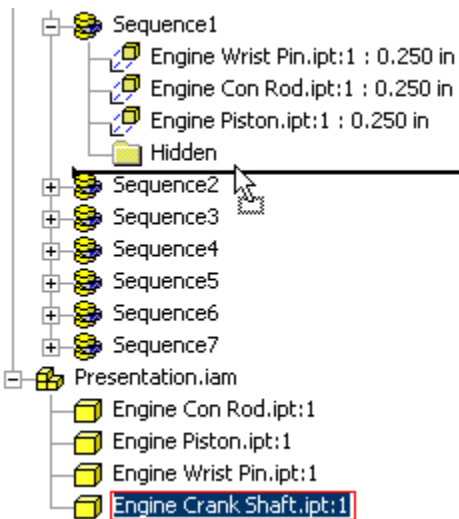

Figure 15: Drag and drop to hide components.
3. Drag Engine Crank Shaft.ipt and drop it just below the Hidden folder under Sequence1 (see Figure 15). The crankshaft will now be hidden during the animation of Sequence1.